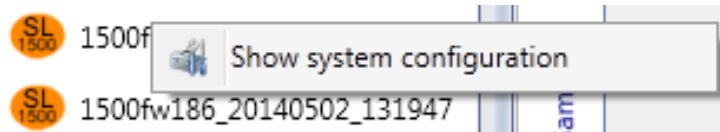

Figure 67. Right click on file name to see SL settings
- Right click on the file name to view the settings used to collect the data (Figure 67)